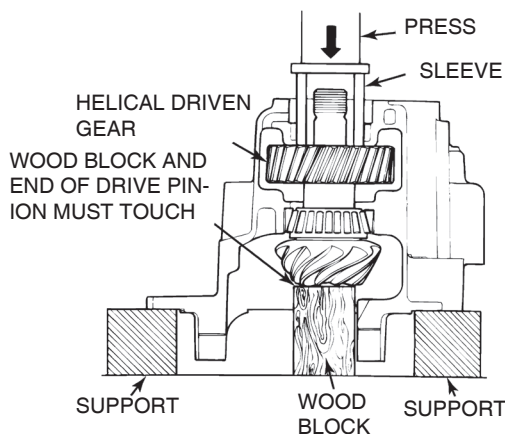

Figure 5.13
7. Place the differential case in the press so that the threaded end of the pinion is toward the TOP. Place supports under the flange of the differential case so that the case is level. Place a wood block under the head of the drive pinion so the inner pinion bearing cone touches the inner bearing cap. Figure 5.13.
8. Use a press and a sleeve to completely install the helical driven gear onto the drive pinion. Use a sleeve on the hub of the gear that fits inside the pinion bore. Press the gear into the drive pinion until the gear touches the spacer. Figure 5.13.